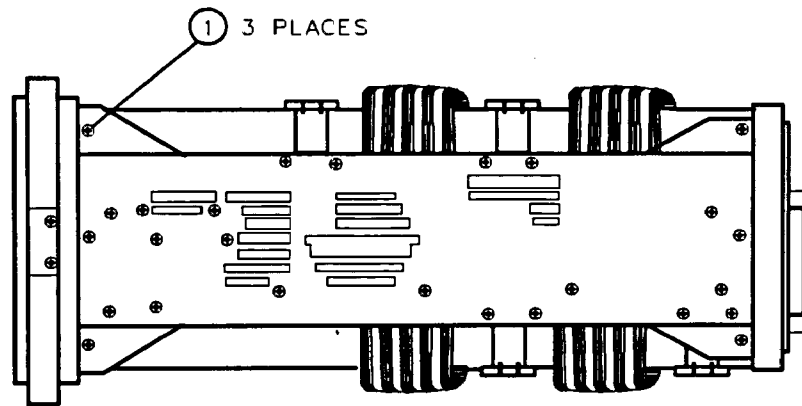

Figure 3-4. Front-Frame Mounting Screws
17. Remove the three screws (1) securing the front-frame assembly to the analyzer's right-side frame. See Figure 3-4.
8. Secure the front frame to the analyzer's side frames, using three flathead screws per side. See Figure 3-4.